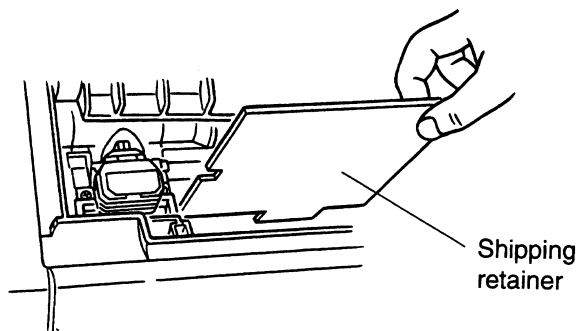

Figure 1, Shipping Retainer Removal
18. Remove the Okidata 390 Printer (0528-0032-01) from its carton. Remove all packaging tape from the lower printer and remove the carriage cover to gain access to the print head. Referring to Figure 1, ensure that the printer ribbon cartridge is installed properly and remove the plastic stop that secures the print head.